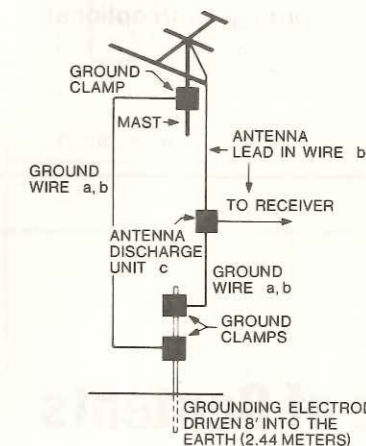

FIGURE 1 EXAMPLE OF ANTENNA GROUNDING AS PER NATIONAL ELECTRICAL CODE INSTRUCTIONS
15. **Outdoor Antenna Grounding** — If an outside antenna is connected to the receiver, be sure the antenna system is grounded so as to provide some protection against voltage surges and built up static charges. Section 810 of the National Electric Code, ANSI/NFPA No. 70-1981, provides information with respect to proper grounding of the mast and supporting structure, grounding of the lead-in wire to an antenna discharge unit, size of grounding conductors, location of antenna-discharge unit, connection to grounding electrodes, and requirements for the grounding electrode. See Figure 1.